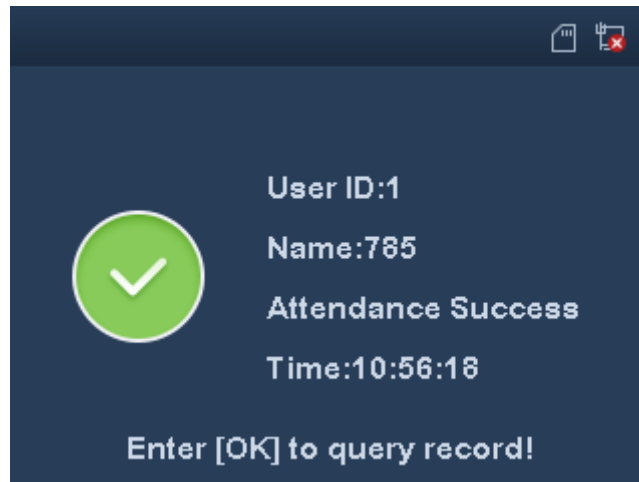

Figure 2-3
- After you pass personal attendance, click , to show personal attendance record, see Figure 2-3 and Figure 2-4.